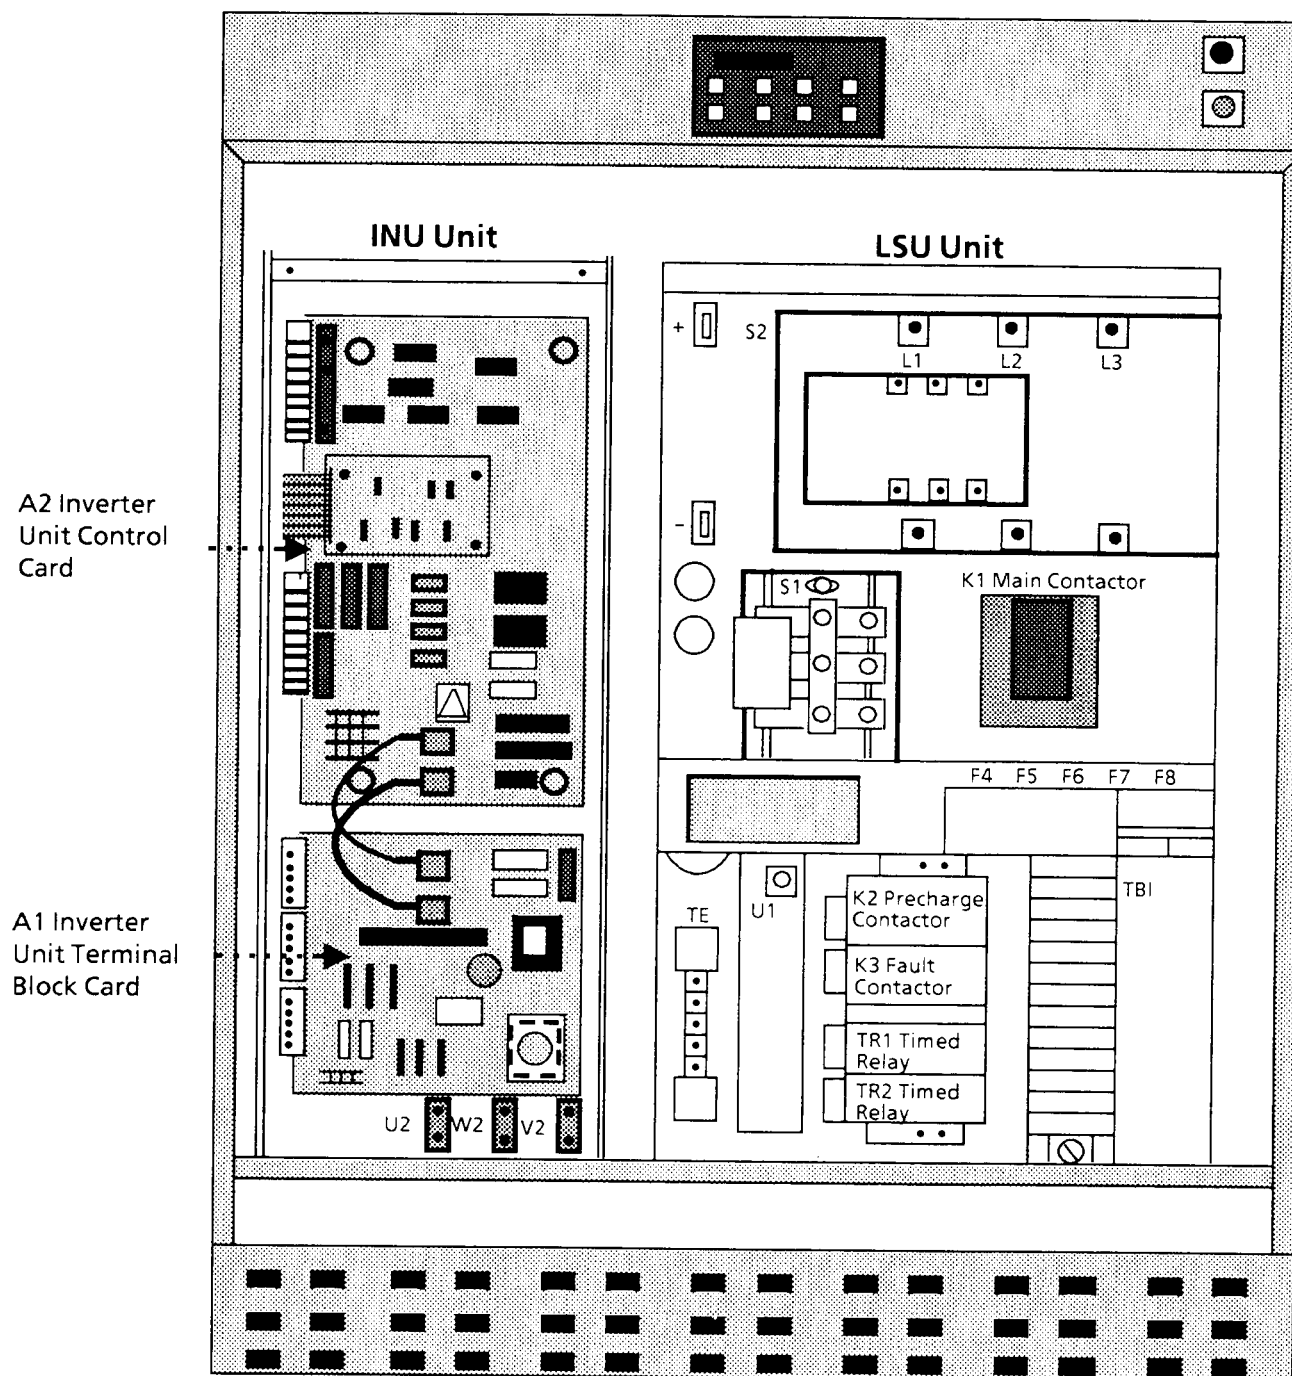

Figure 4-4. Typical Component Layout in a 30 - 115 KVA 1352 Series B Drive
- B. The pulse amplifier A4 , the chop control card A7, the auxiliary voltage supply card A3, the power interface card A9 and the current converters U1 thru U3 are all at main circuit potential (refer to Fig. 4-4).
A. Open the main disconnect switch (Figure 4-4).